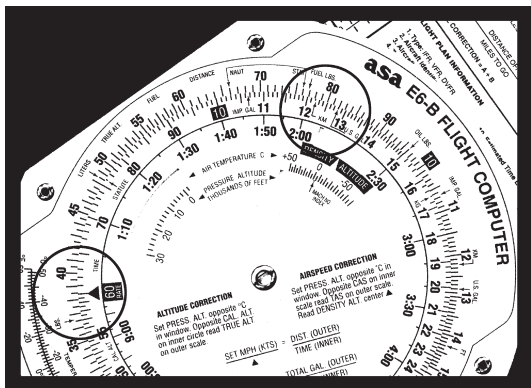

Figure 17
*Example:* After flying 125 miles, you note that you are 8 miles off course. (See Figure 17.)